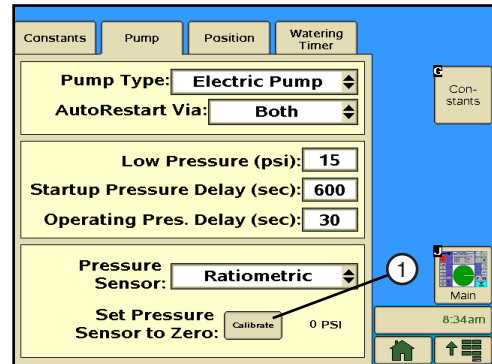

Figure 30-1 1. Calibrate Button
2. Push **Setup, Constants, Pump** to display the pressure sensor **Calibrate** button. Refer to Figure 30-1.